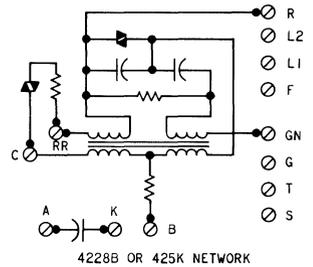

Fig. 4—2660A1M Telephone Set Modified for Exclusion
- 1.05** If 2-line pickup and signaling or 2-line pickup and signaling plus exclusion is desired the appropriate D-kit of parts must be installed and the D4BU-29 mounting cord and 623P4 jack assembly must be removed and replaced with a D10R-87 mounting cord, see Fig. 4.